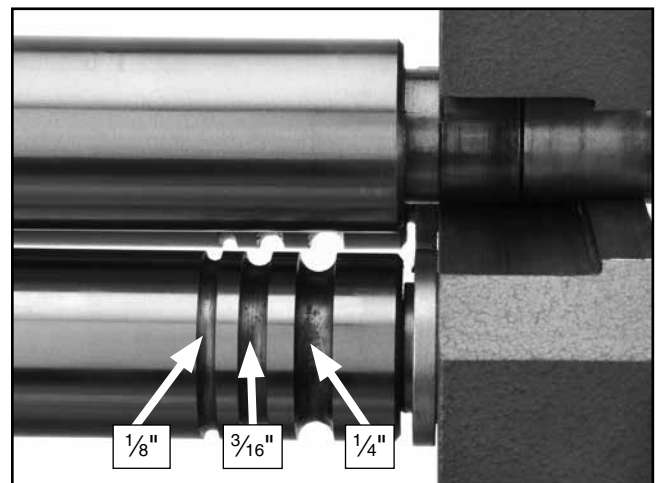

Figure 25. Wire grooves.
1. Place the workpiece into the smallest possible groove on the wheel. The three sizes are $\frac{1}{8}$ ", $\frac{3}{16}$ ", and $\frac{1}{4}$ " (see **Figure 25**).